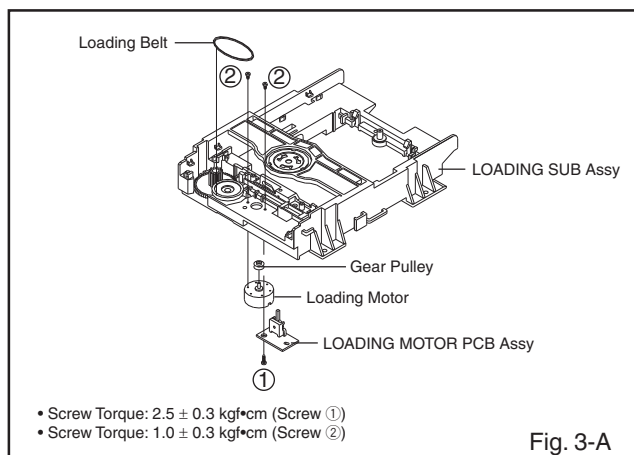

Fig. 3-A
1. In case of the Pulley Motor installation, check if the value of the Fig. 3-B is correct.
2. When installing the wire of the LOADING MOTOR PCB Assy, install it correctly as Fig. 3-C.